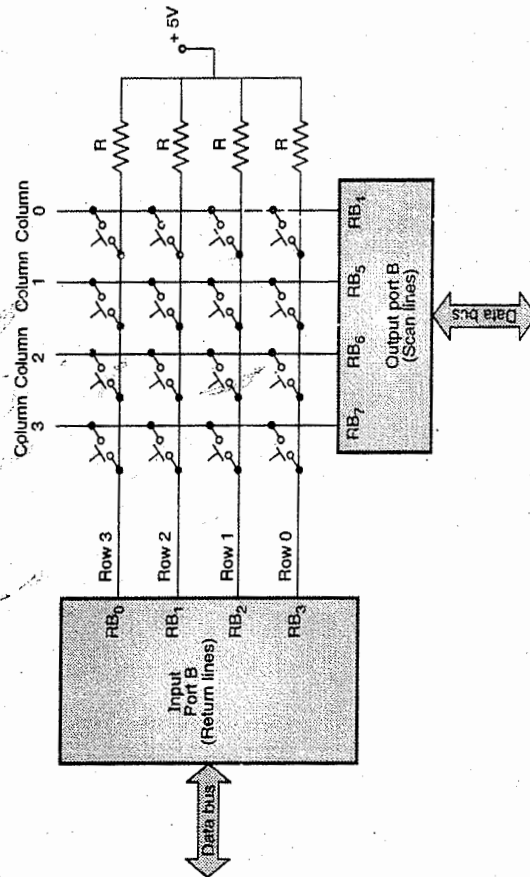

Fig. 10.4.2 : Matrix keyboard connections
- Fig. 10.4.2 shows the interfacing of a matrix keyboard, it requires two ports : an input port and an output port. The columns are referred to as **scan lines** and rows are referred to as **return lines**.